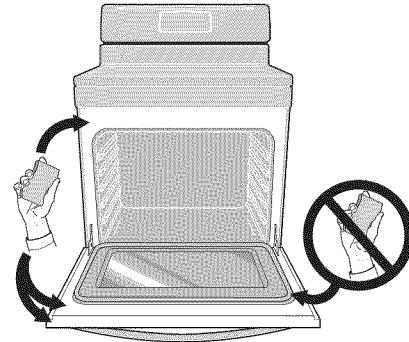

Figure 49: Oven door area to clean and not clean (gasket).
- Clean any soil from the oven frame, the door liner outside the oven door gasket and the small area at the front center of the oven bottom (Figure 49). These areas heat sufficiently to burn soil on. Clean using soap and water prior to starting Self Clean.
- Do not clean the oven door gasket (Figure 49). The woven material of the oven door gasket is essential for a good seal. Care should be taken not to rub, damage or remove the gasket. Do not use any cleaning materials on the oven door gasket. Doing so could cause damage to the door gasket.